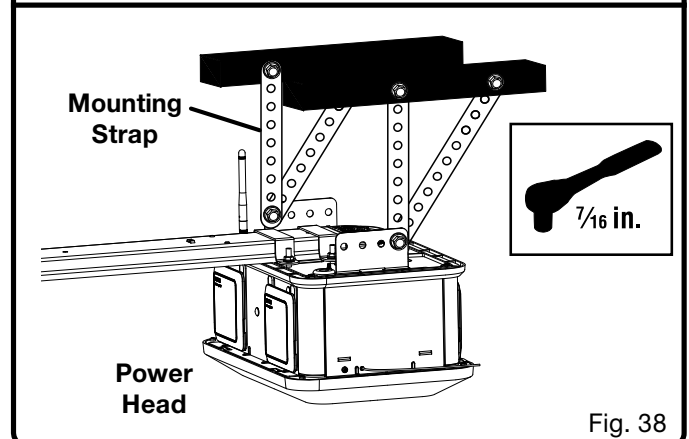

Fig. 38
- Connect straps to garage door opener and to the joists using bolts, washers, and nuts (see figure 38). Tighten bolts and nuts with a $\frac{7}{16}$ in. socket.